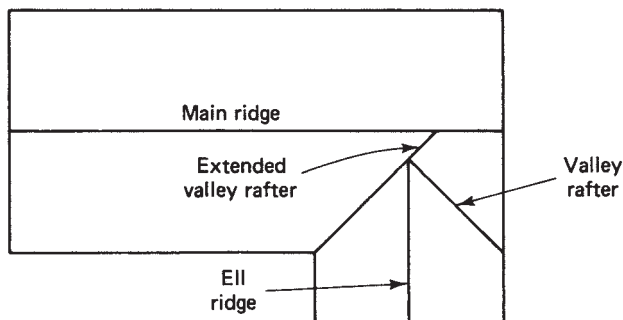

Figure 20–2
- A. Referring to Figure 20–2, suppose that the main building is 26 ft wide and the ell is 20 ft wide. Both roofs have a 5/12 slope. Find the lengths of both the long and the short valley rafters.